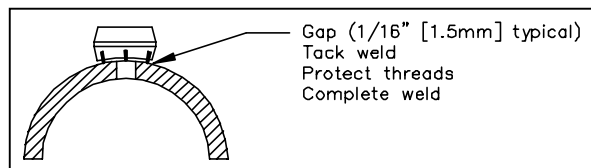

Figure 4. Weld Gap
- Using the appropriate weld gap (1/16" [1.5mm] typical), tack weld the mounting flange into position (Figure 4).